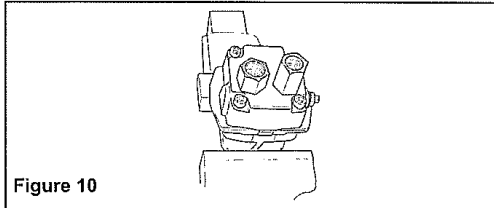

Figure 10
1. Remove the Mounting Flange from the motor body and place hydraulic motor in vise (Figure 10).
2. Remove Tank Port Adapter and Pressure Port Adapter with large crescent wrench or 1-1/16" box end wrench (See Figure 10).